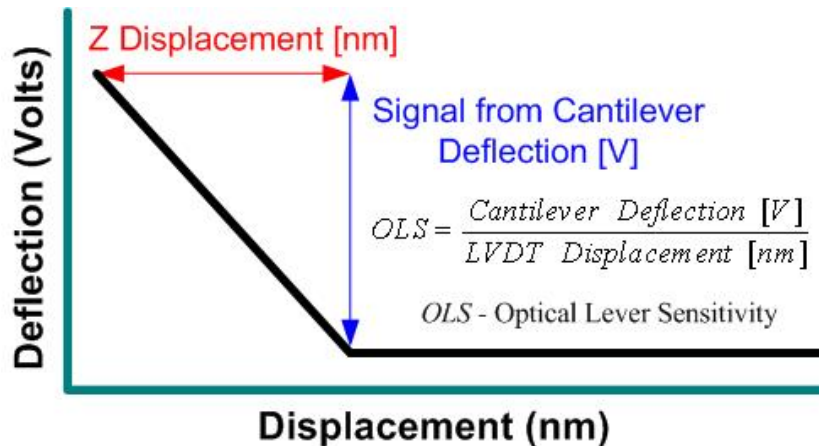

Figure 9.4: qualitative description of calculating the Optical Lever Sensitivity
- The objective of the second step is to measure the slope of the contact region (called the 'inverse optical lever sensitivity'; or *InvOLS*), a parameter necessary for the algorithm to determine the spring constant. Figure 9.4 gives a sense of what the optical lever sensitivity is, given in units of V/nm; the software inverts it for the algorithm. Notice this is a similar curve as in Figure 8.3.